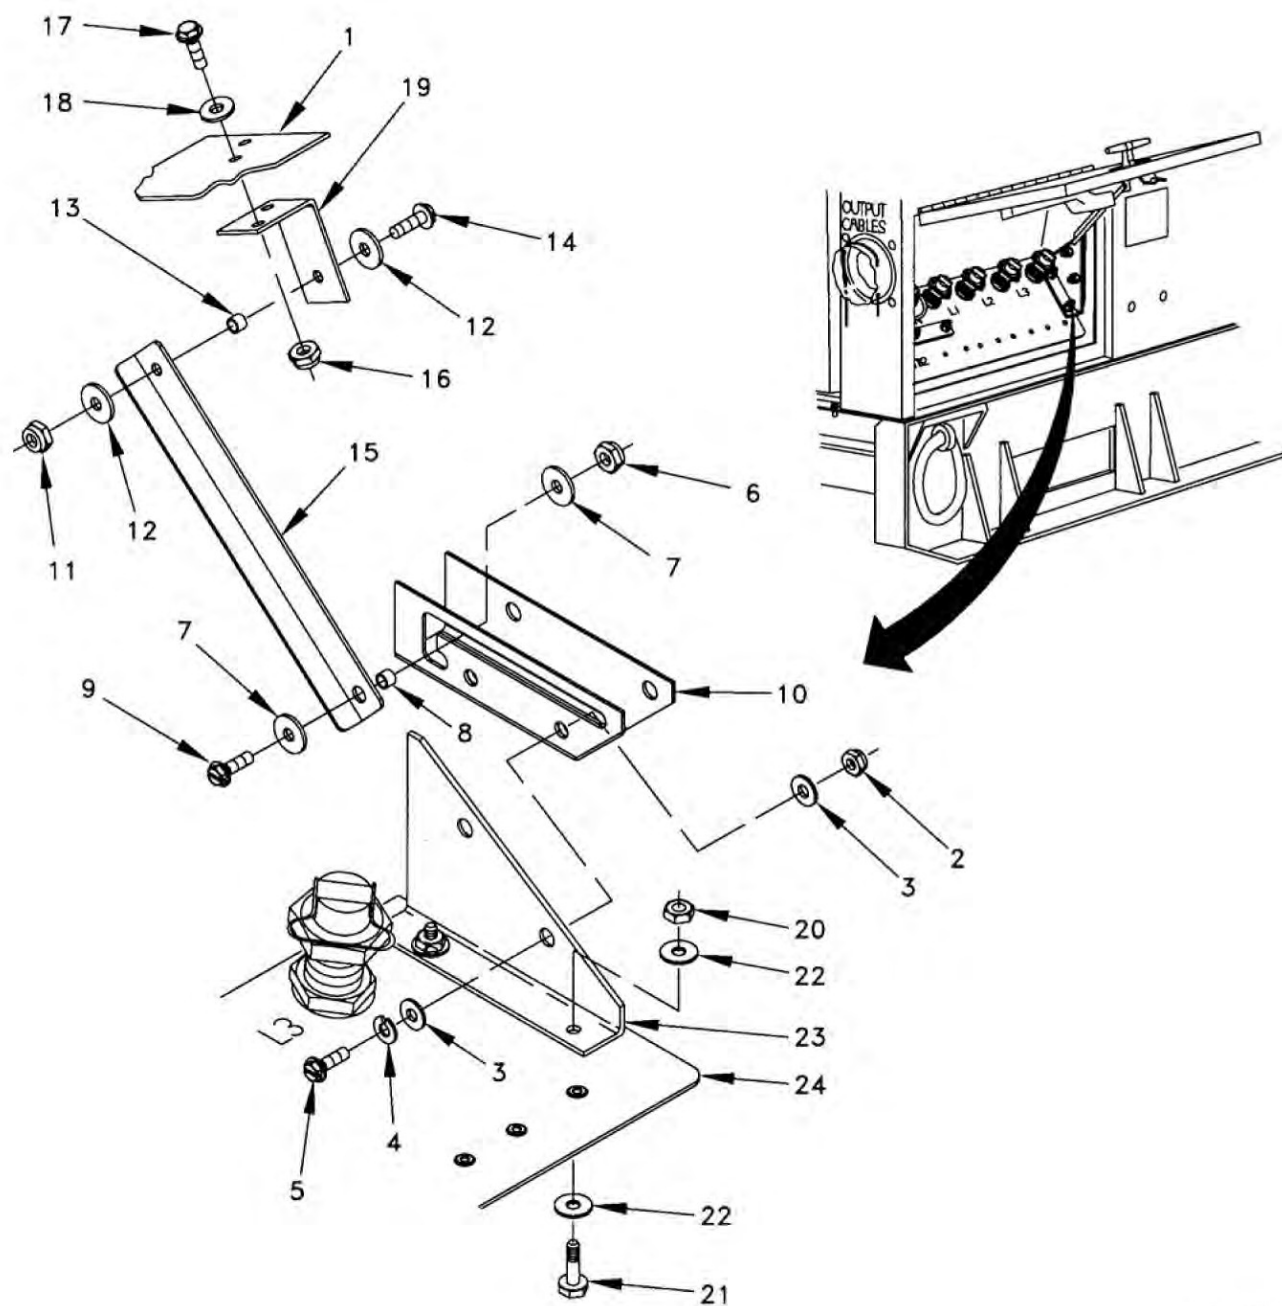

Figure 1. Door Support Assembly.
1. Open load board door (Figure 1, Item 1).
2. Remove two locknuts (Figure 1, Item 2), four washers (Figure 1, Item 3), two lock washers (Figure 1, Item 4), and two screws (Figure 1, Item 5).
3. Remove locknut (Figure 1, Item 6), two washers (Figure 1, Item 7), spacer (Figure 1, Item 8), screw (Figure 1, Item 9), and door support bracket (Figure 1, Item 10).
4. Remove locknut (Figure 1, Item 11), two washers (Figure 1, Item 12), spacer (Figure 1, Item 13), screw (Figure 1, Item 14), and link (Figure 1, Item 15).
5. Remove locknut (Figure 1, Item 16), screw (Figure 1, Item 17), washer (Figure 1, Item 18), and door support bracket (Figure 1, Item 19).
6. Remove two locknuts (Figure 1, Item 20), two screws (Figure 1, Item 21), four washers (Figure 1, Item 22), and bracket (Figure 1, Item 23) from load board (Figure 1, Item 24).
1. Install bracket (Figure 1, Item 23) on load board (Figure 1, Item 24) and secure with four washers (Figure 1, Item 22), two screws (Figure 1, Item 21), and two locknuts (Figure 1, Item 20).
2. Install door support bracket (Figure 1, Item 19), and secure with washer (Figure 1, Item 18), screw (Figure 1, Item 17), and locknut (Figure 1, Item 16).
3. Install link (Figure 1, Item 15), screw (Figure 1, Item 14), spacer (Figure 1, Item 13), two washers (Figure 1, Item 12), and locknut (Figure 1, Item 11).
4. Install door support bracket (Figure 1, Item 10), and secure with screw (Figure 1, Item 9), spacer (Figure 1, Item 8), two washers (Figure 1, Item 7), and locknut (Figure 1, Item 6).
5. Install door support bracket (Figure 1, Item 10) with two screws (Figure 1, Item 5), two lock washers (Figure 1, Item 4), four washers (Figure 1, Item 3), and two locknuts (Figure 1, Item 2).
6. Close load board door (Figure 1, Item 1).